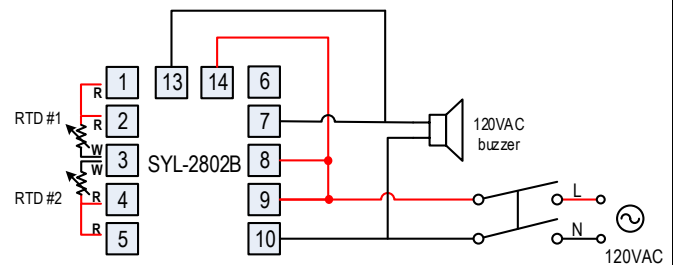
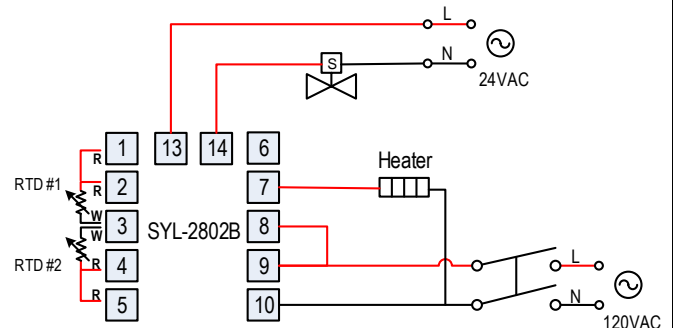

Figure 5. Wire a 120V buzzer to alarm relays.
Figure 6. Drive a solenoid valve and a small heater using alarm relays.
2.4.2 The output relays, AL1 and AL2, can be considered as "dry" single-pole switches. They do not provide power to loads. Please see Figure 5 for how they are wired when providing a 120V output (or when output voltage is the same as the power source for the temperature meter). If the load requires a different voltage than what is supplied to the temperature meter, then another power source is needed. See Figure 6 for examples.